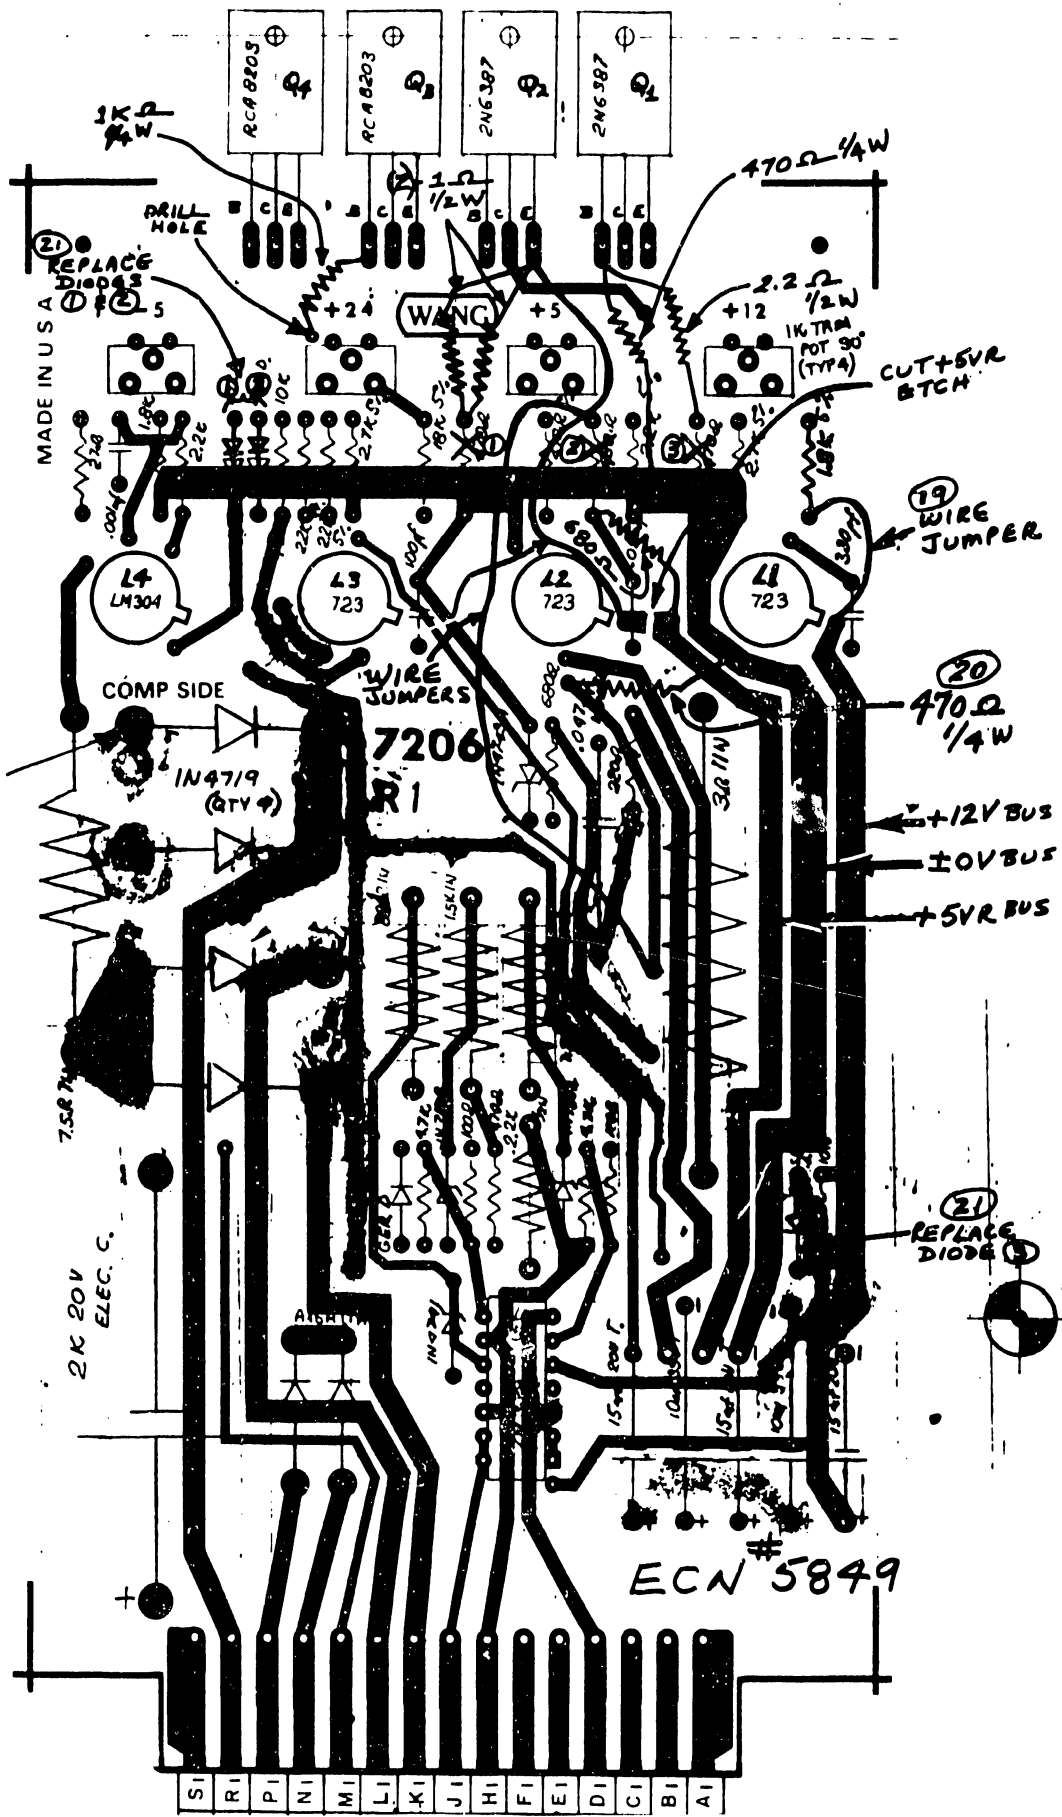
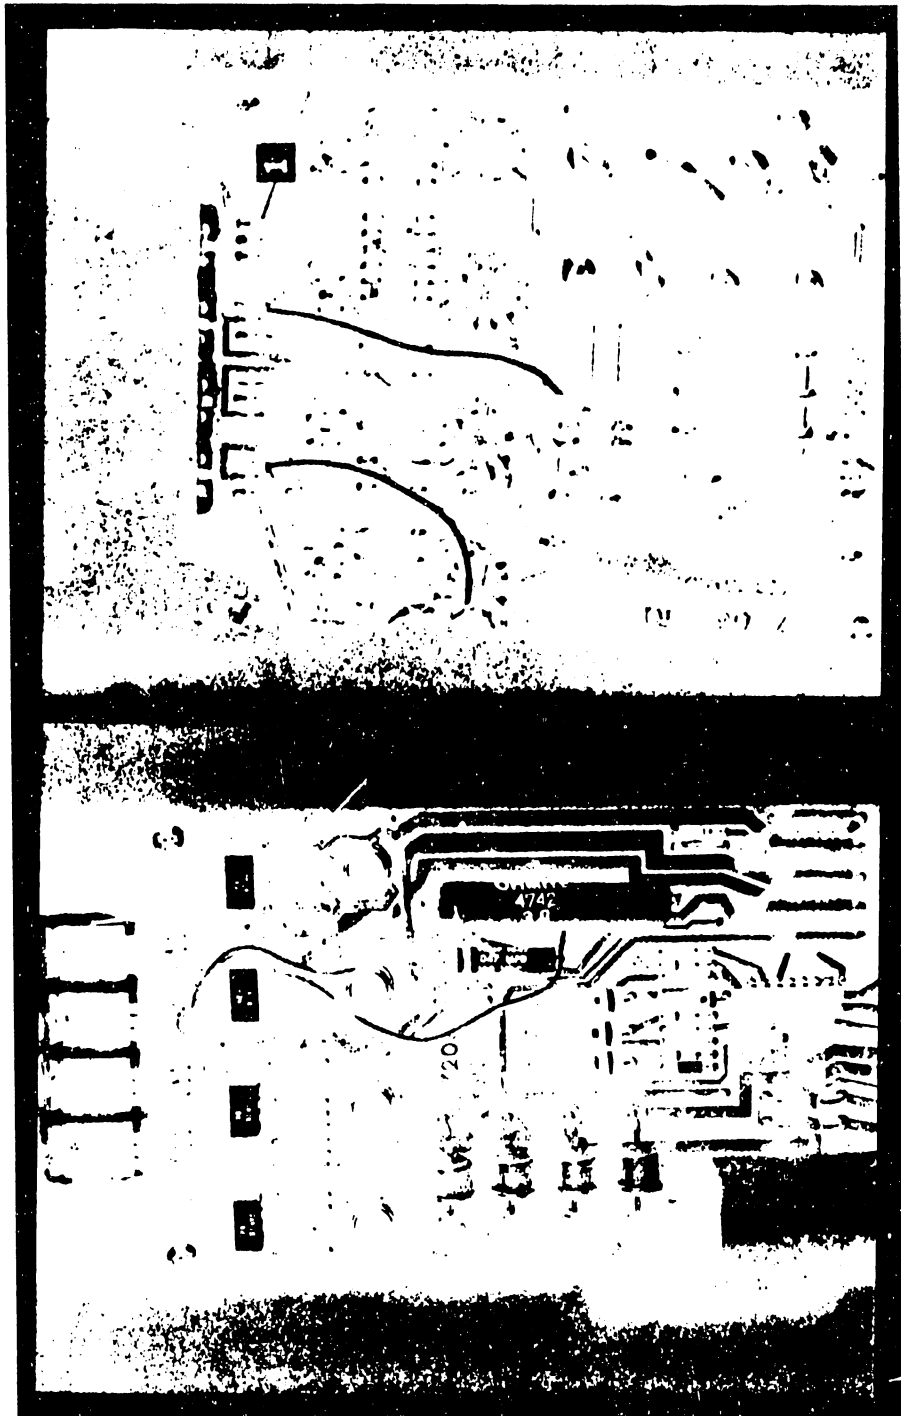

FIGURE 5-1
FIGURE 5-3
Per schematic below, add two  $1\Omega$ , 1/2 W resistors to +5 VR regulator; also, add one  $2.2\Omega$  1/2 W resistor to the +12VR regulator. Change 3 silicon diodes from 380-1000R to 380-1001R. See Figure 5-1 and 5-2. Figure 5-3 is a photograph of the installed ECN 5849 on the 7206 PCB.
- 10) Drill hole to install  $1k\Omega$  resistor (Part #330-3010). (Do not damage etches on back of board.) See Figure 5-1.
- 12) Remove 3 resistors represented by (X) in Figure 5-1. Their values are 470 $\Omega$ , 680 $\Omega$  and 470 $\Omega$  reading left to right. (These resistors are numbered 1, 2 and 3 for reference.)
- 18) Add jumper wire from top plate through of removed 680 $\Omega$  resistor 2 to bottom of etch plate through shown in Figure 5-1.
- 20) Install 470 $\Omega$  resistor (Part #330-3023UB) with sleeving on pigtail and solder to +0V bus. Connect other end of resistor to top end of etch plate through shown on Figure 5-1.
See Figure 5-3 which illustrates the installed ECN 5849.